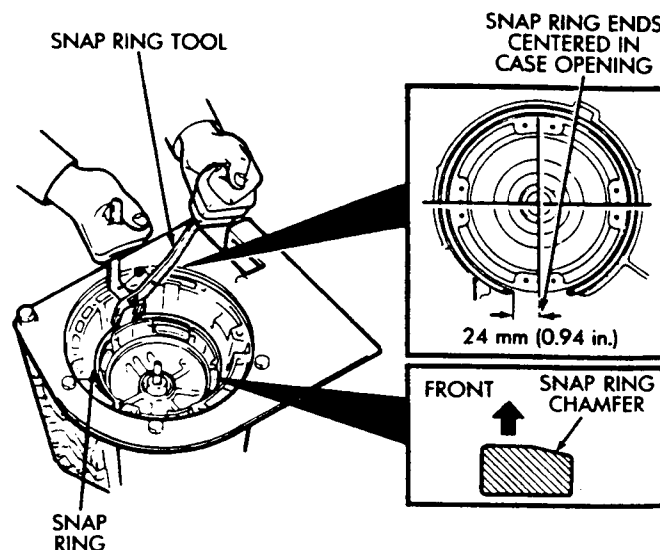

Fig. 38 Installing Overdrive Support Snap Ring
(46) Install overdrive support snap ring with tool B.Vi. FM-29 (Fig. 38). Chamfered side of snap ring faces up and toward case front. Snap ring ends must be